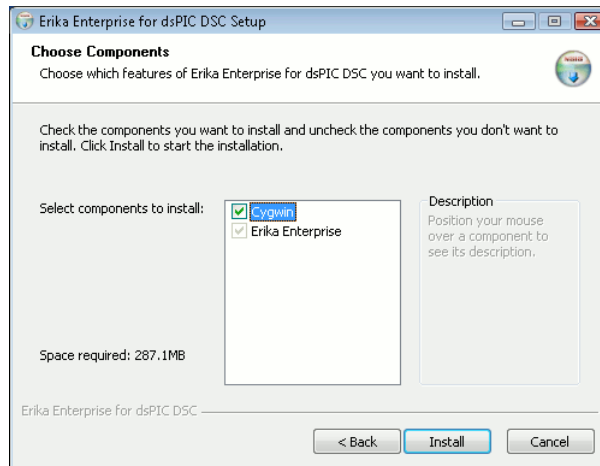

Figure 3.1: This screenshot shows the dialog box with the available install packages.
5. The installer will prompt a list of packages which can be installed. Select all the packages you wish to install and continue the installation procedure (see Figure 3.1).